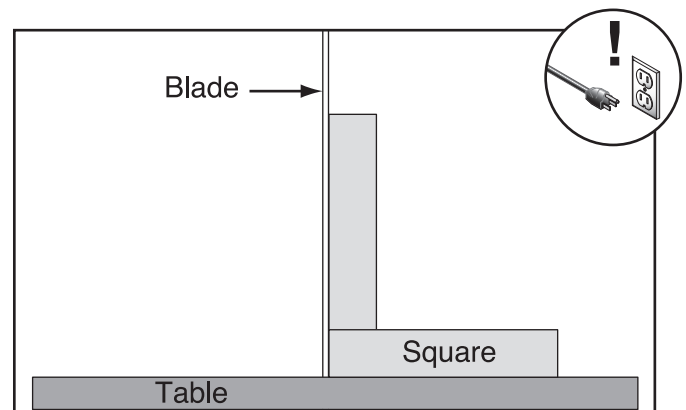

Figure 29. Squaring table to blade.
4. Raise the guide post and place a machinist's square on the table next to the side of the blade, as illustrated in **Figure 29**. Tilt the table until it rests 90° to the blade, then secure it with the table tilt knobs.